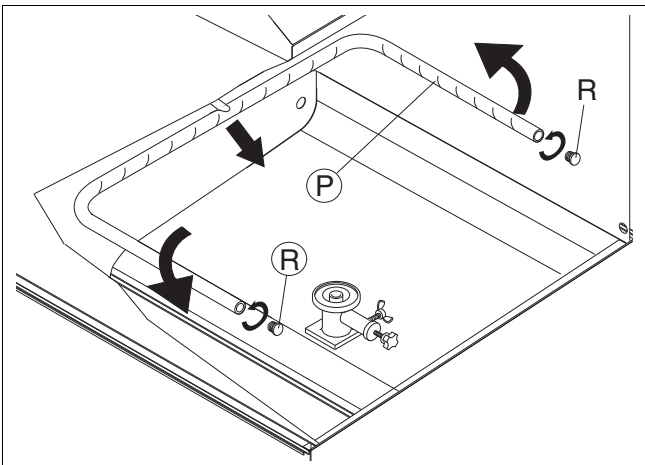

Figure 27 Fixed wash arm removal
- Remove jet "P" (Figure 27) by turning it clockwise and pulling it out.
- Unscrew plugs "R" (Figure 27) from the side jets.